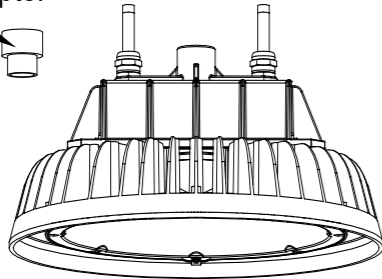
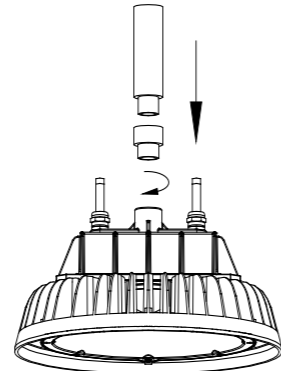

Fig. 7
Fig. 8
1. Find the 3/4" NPS adapter from accessory bag as Fig. 7 shows (Pipe is not provided. Please choose a proper pipe with 3/4" NPS thread), install the 3/4" adapter on fixture. See Fig. 8.